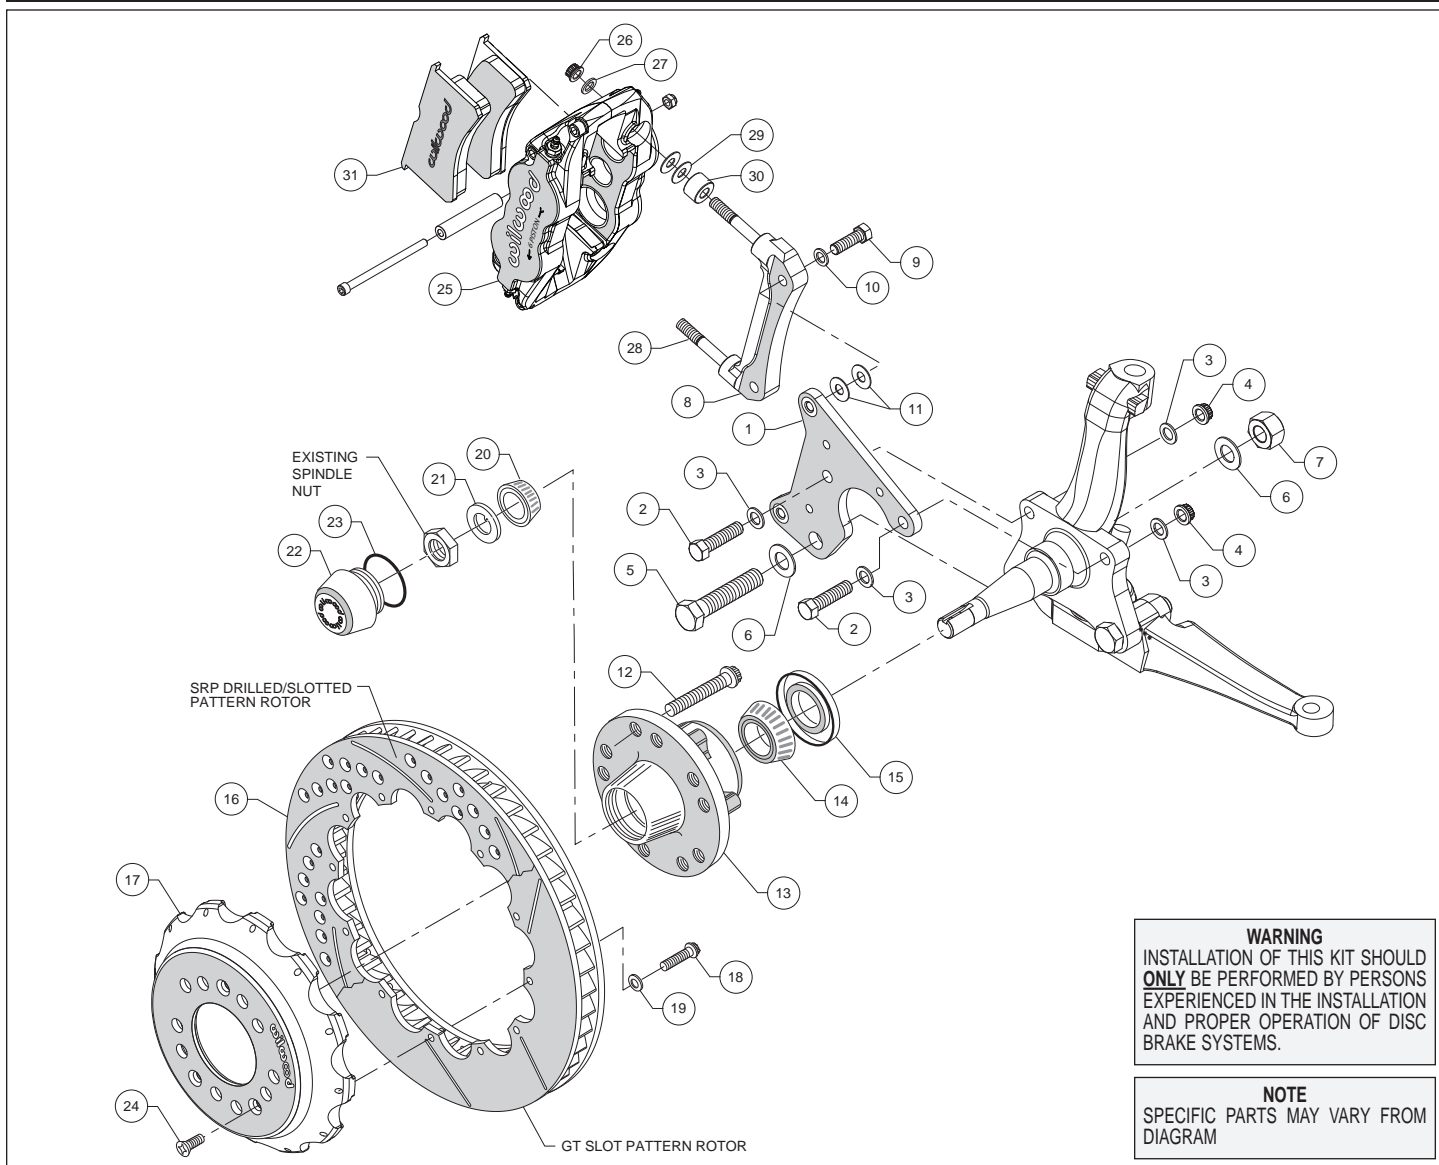
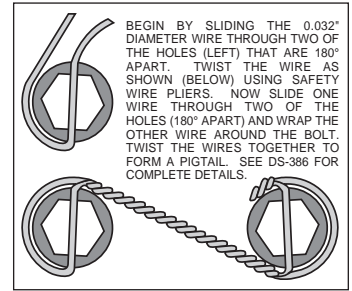

Figure 1. Typical Installation Configuration
Figure 3. Safety Wire Diagram
**Assembly Instructions** (numbers in parenthesis refer to the parts list and Figure 1 on the preceding pages): **CAUTION:** All mounting bolts must fully engage clinch nuts. Be sure to check that all bolts are protruding through flanged side of clinch nut after shimming.
- Orient the spindle bracket (1) as shown in Figure 1 and Photo 1, and install using bolts (2), washers (3), and nuts (4) on the top holes and bolt (5), washers (6), and nut (7) on the bottom hole, Figure 1 and Photo 1. Temporarily tighten the mounting bolts. Ensure that the flanged heads of the clinch nuts in the bracket are facing outboard, Photo 1. **NOTE:** The bracket must fit squarely against the mounting points on the spindle. Inspect for interference from casting irregularities, machining ridges, burrs, etc. Remove nuts one at a time, apply red *Loctite*® 271 to bolt threads and torque nuts (4) to 47 ft-lbs. and nut (7) to 140 ft-lbs.
- The caliper mount radial bracket (8) should initially be installed with clean, dry threads on the mounting bolts. Orient the bracket as shown in Figure 1, and Photo 2. Install onto the spindle bracket using bolts (9), and washers (10). Initially place two .035 thick shims (11) on each bolt between the radial and spindle brackets, Figure 1. Temporarily tighten the mounting bolts. Later, after the caliper alignment has been checked, the mount bolts will be secured using red *Loctite*® 271.
- Install wheel studs (12) into the hub (13), Photo 3. Torque to 77 ft-lb. **NOTE:** There are two five lug patterns in the hub (5 x 4.50 and 5 x 4.75). Ensure the correct hub stud pattern is being used to fit the wheel application.
- Pack the large inner bearing cone (14) with high temperature disc brake bearing grease (available from your local auto parts store) and install into the backside of the hub (13), Photo 4.
- Install the grease seal (15) by pressing into the backside of the hub (13), flush with the end of the hub, Photo 4.
- Orient the rotor (16) and the hat (17) as shown in Figure 1 and Photo 5. Attach rotor to hat using bolts (18) and washers (19). Using an alternating sequence, apply red *Loctite*® 271 to the threads, and torque to 155 in-lbs. For an added measure of security, the bolts may be safety wired using standard 0.032 inch diameter stainless steel safety wire as shown in Figure 3. Refer to Wilwood's data sheet DS-386 for complete safety wire installation instructions.
- Slide the hat/rotor assembly (16/17) onto the hub (13) taking care to align the small countersunk holes in the hat with the small threaded holes in the hub. **NOTE:** The hat must fit flush against the hub face or excessive rotor run out may result. Install three flat head screws (24) through the small holes in the hat, Photo 7, and torque to 85 in-lb.
- NOTE:** This kit contains distinct right and left hand calipers that must be mounted in a specific direction, as described below. Lubricate the caliper mounting studs (28) with lightweight oil. Initially place one spacer (30), and two .035" thick shims (29) on each stud between the caliper and the bracket, as shown in Figure 1 and Photo 8. Mount the caliper (25) onto the bracket (8) using lock nuts (26) and washers (27), Figure 1. Ensure that the caliper is mounted so the largest pistons are at the rotor exit end of the caliper, in relation to the direction of rotor rotation. Temporarily tighten the lock nuts and view the rotor through the top opening of the caliper. The rotor should be centered in the caliper, Photo 9. If not, adjust by adding or subtracting shims (11) between the spindle bracket (1) and the caliper mount bracket (8). Always use the same amount of shims on each of the two mounting bolts. Once the caliper alignment is correct, remove the radial bracket mounting bolts one at a time, apply red Loctite® 271 to the threads, and torque to 40 ft-lb. **NOTE:** The end of the bolts must be flush with, or protruding through, the head of the clinch nut.